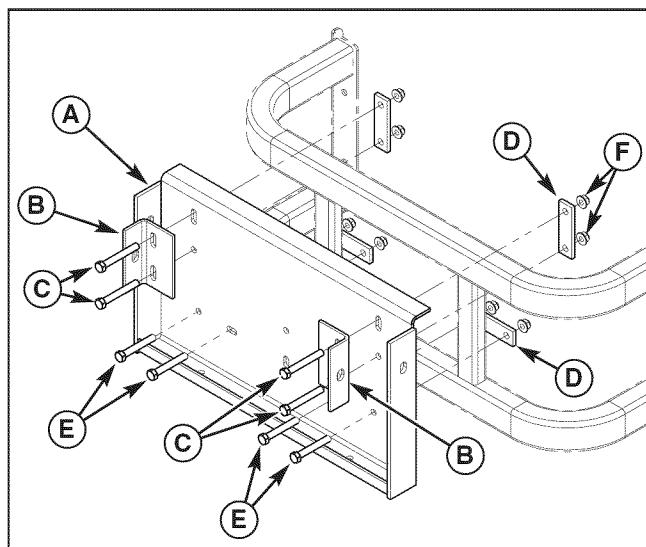
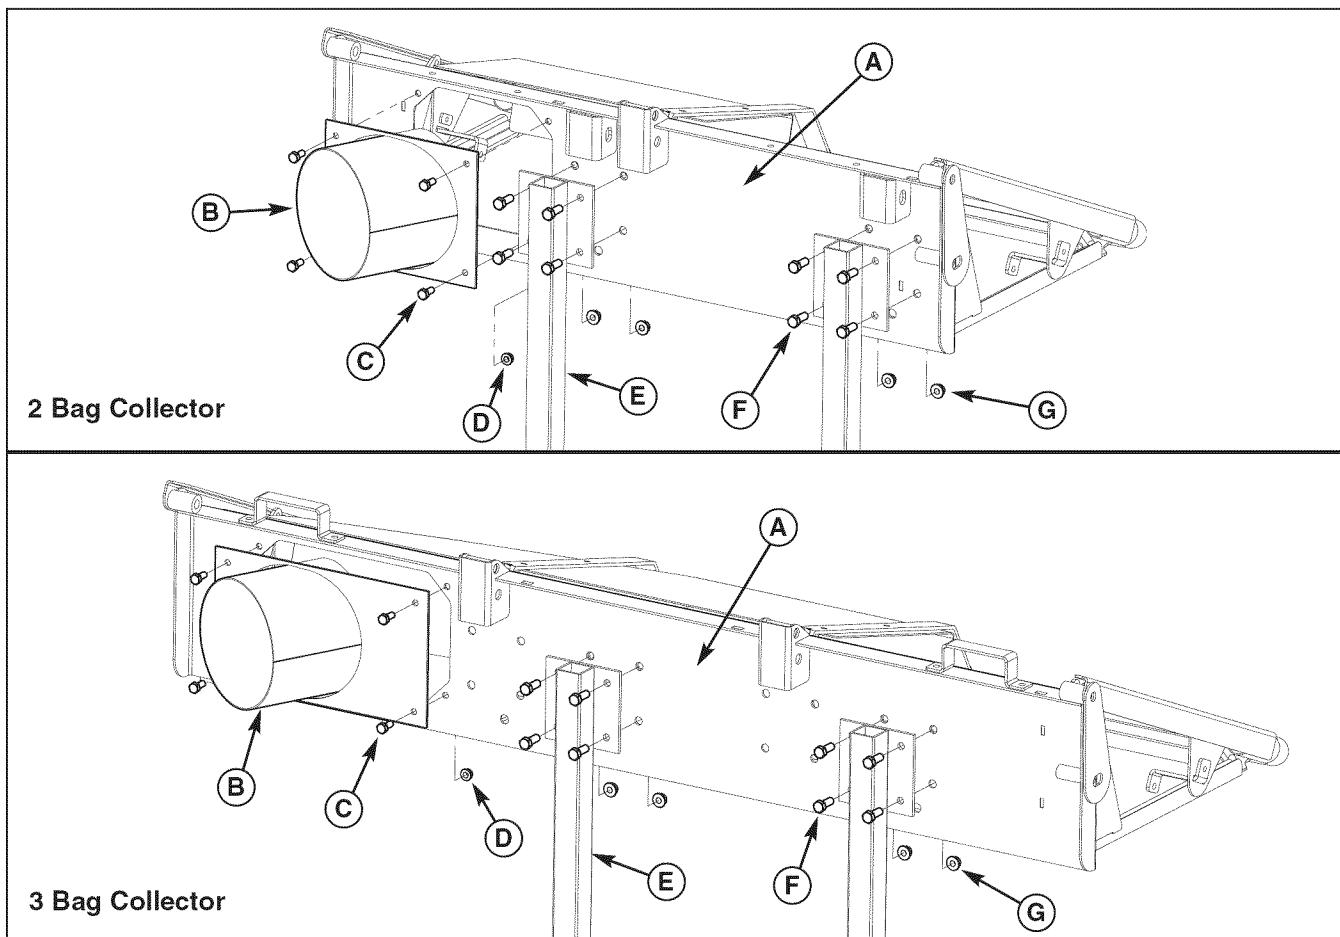

Figure 38. Install Collector Mount Plate
Figure 42. Assemble Collector Hood
1. Install the collector mount plate (A, Figure 38) and mount tabs (B) on to the bumper. Install the 3/8-16 x 2-3/4" bolts (C) through the mount tabs and loosely secure with the clamp bars (D) and 3/8-16 nylock flange nuts (F).
2. Install the 3/8-16 x 2-1/2" bolts (E) through the bottom mounting holes and loosely secure with the clamp bars (D) and 3/8-16 nylock flange nuts (E).
5. Tighten the top mounting bolts (C, Figure 38) securely and remove the hitch pins and mount posts.
1. Install the inlet tube (B, Figure 42) to the collector back plate (A) and secure with the 5/16-18 x 3/4" bolts (C) and 5/16-18 nylock flange nuts (D).
2. Install the mount posts (E) on the back plate and loosely secure with the 3/8-16 x 1" bolts (F) and 3/8-16 nylock flange nuts (G).
*NOTE: On the 3-bag collector back plate, install the eight (8) supplied hole plugs in the remaining mounting holes not used.*
3. Install the collector onto the mount plate and secure with the hitch pins as shown in Figure 38. Again, this will insure that the holes are properly aligned for easy installation and removal.. Tighten the 3/8-16 x 1" bolts securing the posts to the back plate.